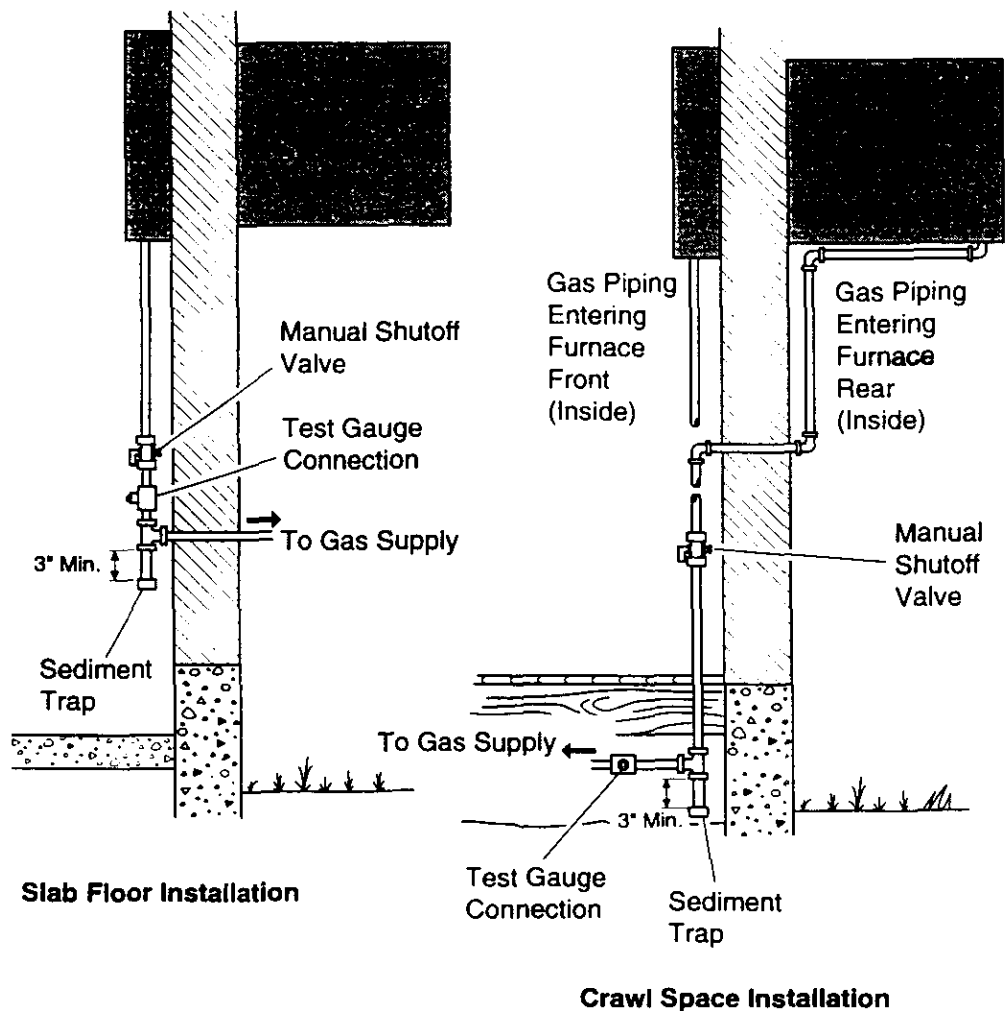

Figure 15 - Gas Connection
Installation must include a manual shutoff valve (supplied), ground joint union, plugged 1/8" NPT tap, and a sediment trap. Locate NPT tap within reach for test gauge hook up. NPT tap must be upstream from furnace (see Figure 15).
Install sediment trap in supply line as shown in Figure 15. Locate sediment trap where it is within reach for cleaning. A sediment trap traps moisture and contaminants. This keeps them from going into furnace controls. If sediment trap is not installed or is installed wrong, furnace may not run properly.
**IMPORTANT:** Locate sediment trap where trapped matter will not freeze. Install sediment trap in a vertical run of pipe. If gas piping enters furnace from rear (outside), you must locate sediment trap in crawl space (see Figure 15). If you install furnace in structure with slab foundation, you must install gas piping to front of furnace (inside) (see Figure 15).